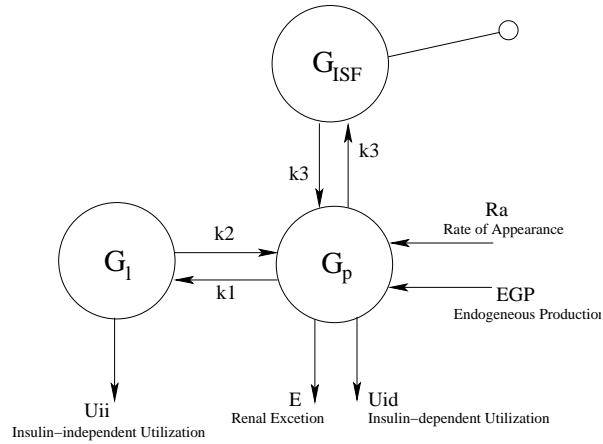

Figure 7.1 Interstitial and Plasma Glucose compartment kinetics.
7.3 Subcutaneous Delay: Consider the compartment model in Fig. 7.1. Write down the balance equation governing the interstitial glucose value, G_{ISF} . Assume that $G_P(t) = \sin(\omega t)$. Determine what the amplitude of G_{ISF} becomes for $\omega = 1$ and $\omega = 100$, when $k_3 = 10$. Plot the bode diagram of the system from G_P to G_{ISF} . What can you say about the permeability of signals G_P with different ω ?